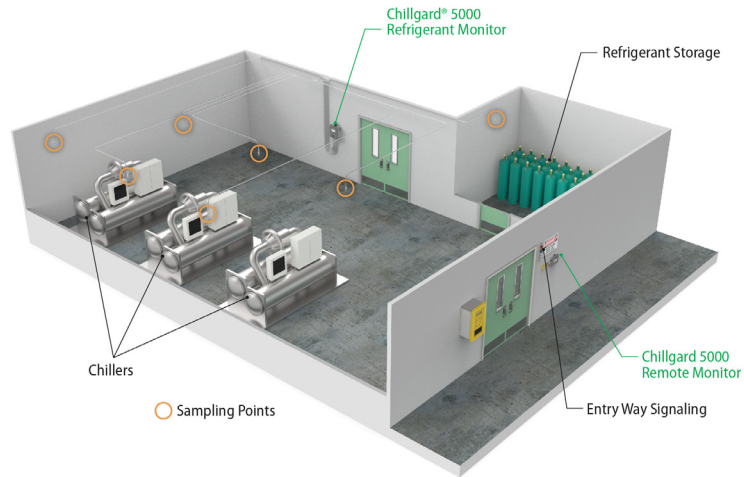

Fig. 8 Mounting location (Ammonia)
- For ammonia, mount the lines near the ceiling (Fig. 8).